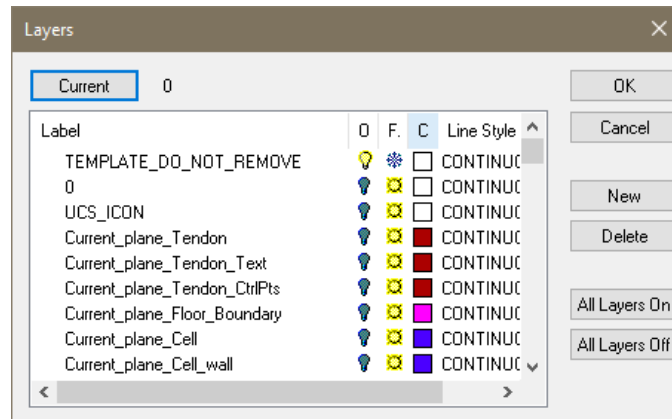

Figure 4-8
- Click on the *Layers Setting*  icon in the **Lower Quick Access Toolbar**. This will open the *Layers* properties window as shown in **FIGURE 4-8**.